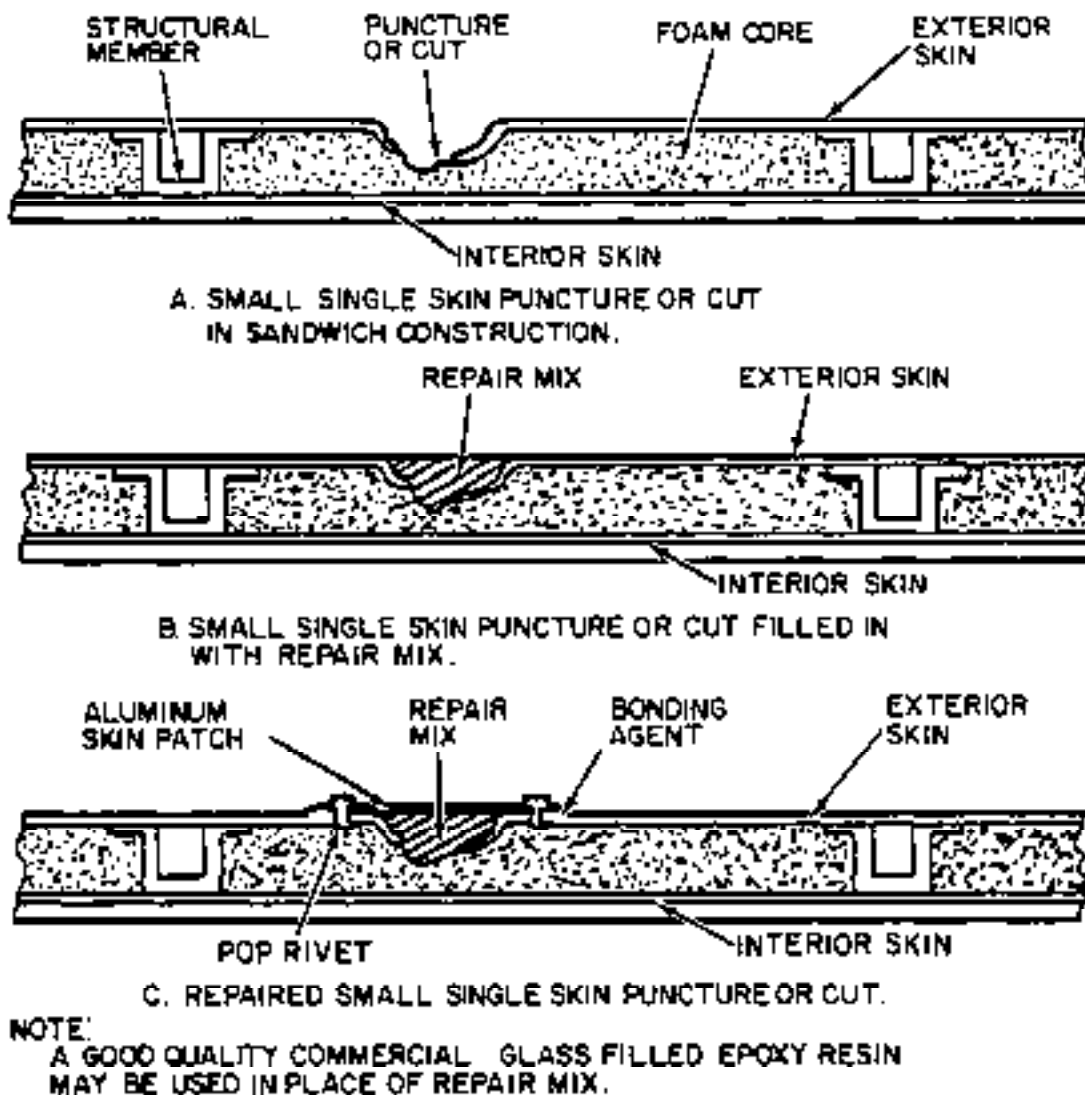

Figure 4-4. Shelter Wall Repair of Small Skin Puncture.
Repair. (Figure 4-4)
- (1) Select an aluminum skin patch that overlaps the puncture or cut by one inch in all directions.
- (2) Position the aluminum skin patch over the puncture and lightly scribe the area of the patch on the shelter skin.
- (3) Remove all paint or foreign matter from the puncture area and an area approximately one inch around the scribed mark using an emery cloth and toluene solvent.
- (4) With the aluminum patch over the puncture area, drill holes for 3/16 inch pop rivets (#11 drill) around the perimeter of the patch, 1/2 inch from the edge of the patch and on one inch centers.
- (5) Roughen the skin surface with coarse grit emery cloth. Be sure that the area is completely clean. Do not touch the area with the hands or wipe with an oily cloth.
- (6) Fill the puncture with a fiber filled polyester resin. Then, smooth out evenly as shown in Figure 4-4, B.
- (7) Allow the resin to set thoroughly. Then, sand off excess flush with the contour of the skin surface.
- (8) Use the aluminum skin patch as a template to mark pop rivet holes in the skin of the shelter, and drill #30 holes in the skin of the shelter.
- (9) Coat the back surface of the aluminum skin patch and the shelter skin within the scribe lines with mixed adhesive (paragraph 4-7.b.(4)).
- (10) Position the aluminum skin patch over the repaired area.
- (11) Dip the pop rivets in the mixed adhesive and use the riveting tool for pop rivets to secure the aluminum skin patch to the shelter skin (C, Figure 4-4).
- (12) With a cloth, saturated in toluene solvent, squeeze out and remove immediately any excess mixed adhesive.
- (13) Prime and paint the repaired surface. (Refer to paragraph 4-12.)